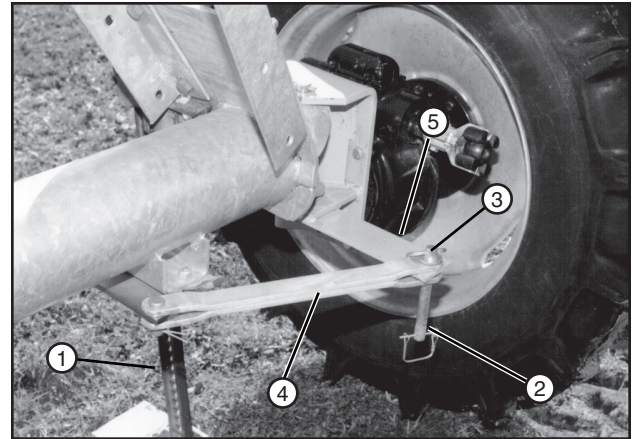

Figure 67-1 1. Jack
1. Use a jack to lift one side of the drive unit until the tire is off of the ground. See figure 67-1.
3. Remove the lynch pin from the torque pin, then remove the torque pin and disconnect the tow link bar from the steering arm. See figure 67-1.